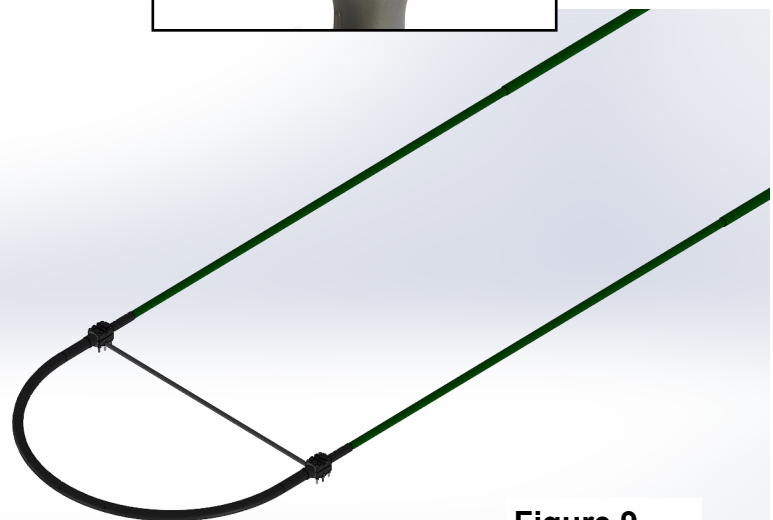

Figure 9
23. **Figure 9** shows the completed sweep—repeat the process for each sweep.